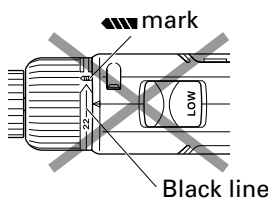

Fig. 10
- Do not use with the cap numeral at "22" and the black line at the middle of the drill mark. Doing so may cause damage. (See Fig. 10)